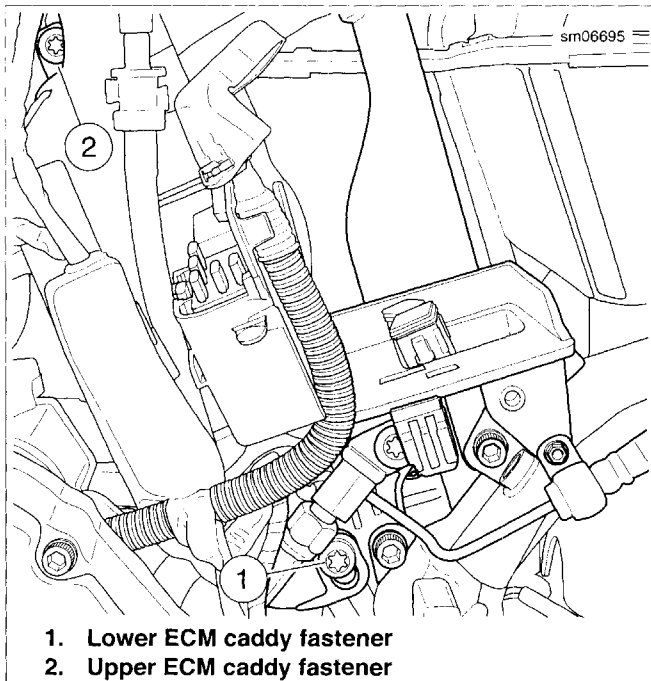

Figure 6-96. ECM Caddy Fasteners
17. See Figure 6-96. Remove the ECM caddy ..